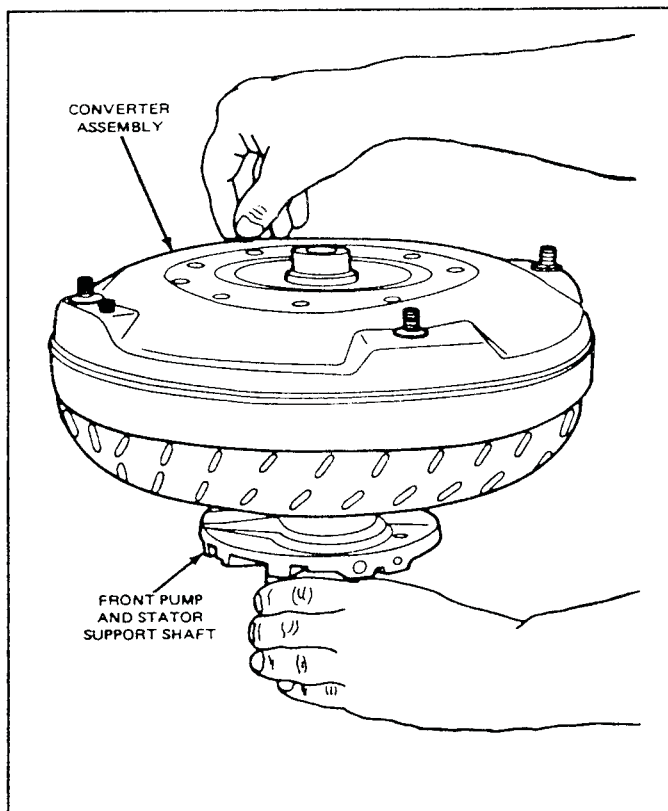

FIG. 36 Stator to Impeller Interference Check
1. Position the front pump assembly on a bench with the spline end of the stator shaft pointing up (Fig. 36).